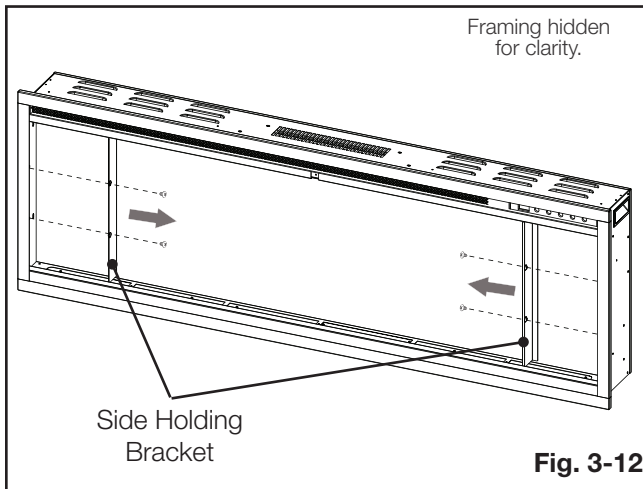

Fig. 3-12
- C. Remove side holding brackets by removing the screws from inside the appliance (**Fig. 3-12**). Reinstall the screws after removing from outer trim,